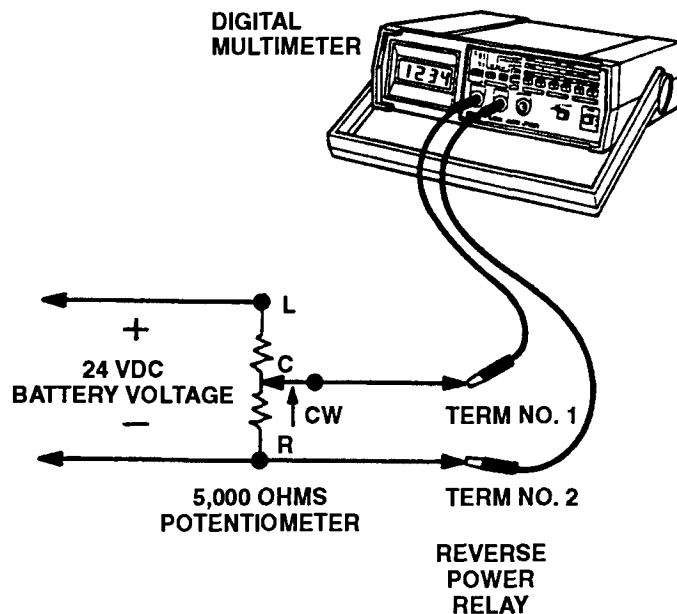

FIGURE 2-16. Reverse Power Relay Test Set-up
- f. Set up a test circuit as shown in FIGURE 2-16. Connect 24 VDC source to terminals L and R of potentiometer. Connect a wire between terminal C of potentiometer and terminal 1 of reverse power relay. Connect a second wire between terminal R of potentiometer and terminal 2 of reverse power relay. Set multimeter for DC volts and connect positive lead of multimeter to terminal 1 and negative lead to terminal 2 of reverse power relay.